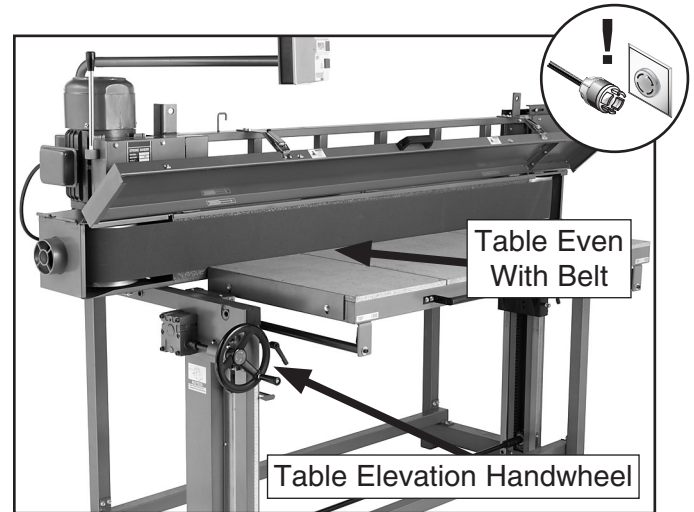

Figure 45. Elevating table.
- Pull the table all the way forward, lock it in place with the table travel locks, then use the table elevation handwheel to raise the table until it is even with the belt (**Figure 45**).